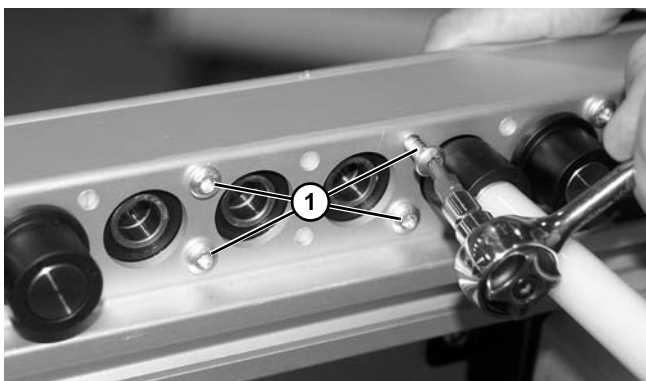

Figure 43
9. Remove four screws (Figure 43, item 1) securing the bearing housing assembly to conveyor frame.